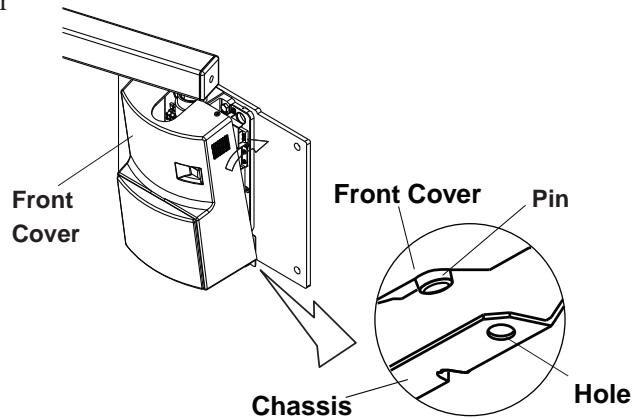

Fig. 3-9A Setting front cover on chassis
1. Set the pins located on the bottom of the front cover into holes on the bottom of metal chassis, and then push the top side toward the wall to close. (**Fig.3-9A**)